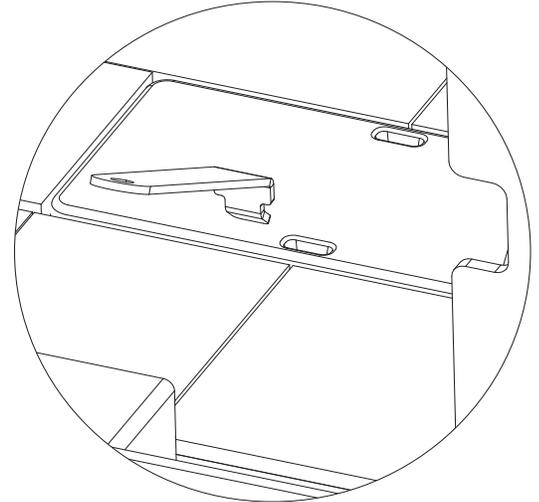

Figure 22.4
3. Install ARS Spacer on left hand side with one bolt using Phillips head screwdriver (**Figure 22.4**).